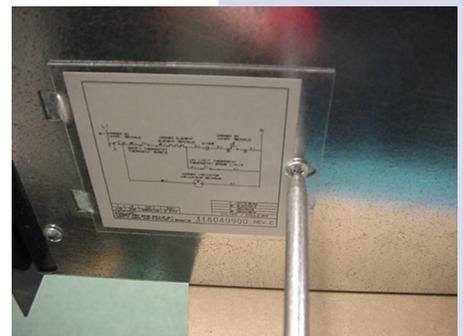

Figure 10
4. Remove the screw on the right side of the appliance to have access to the drawer control. (Figure 10)